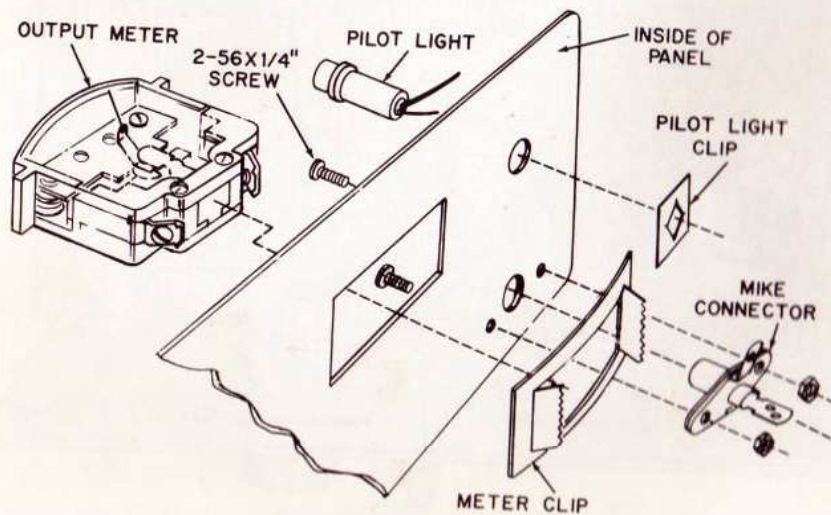

FIGURE 16
SEE FIGURE 16
- Power output meter. See Figure 16. Insert meter through hole on front side of front panel. Take rectangular mounting clip and slip over meter body from backside of panel, make sure the meter is in correct position. Do not mount meter upside down. Place meter face on soft surface and push clip down with fingers until meter is secure.
- Red, flat-faced pilot light. See Figure 16. Insert light through hole on front side of front panel. Slip small square mounting clip over the light body. Place face of light on soft surface, and push clip down with screwdriver till light is secure.